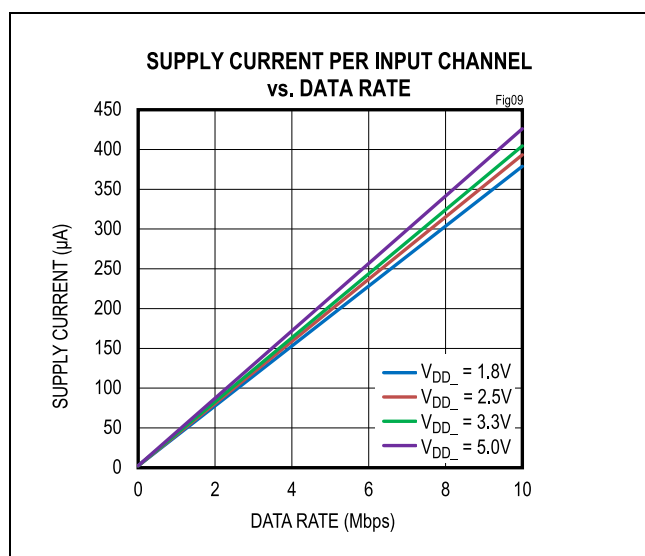
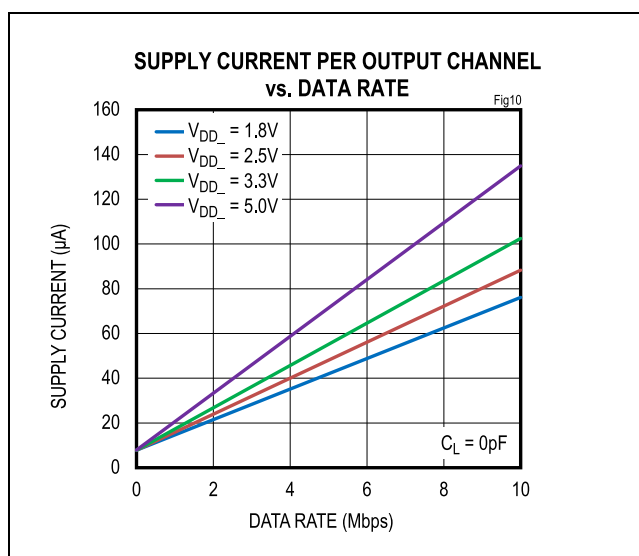

Figure 9. Supply Current per Input Channel (Estimated)
Figure 10. Supply Current per Output Channel (Estimated)
The required current for a given supply ( $V_{DDA}$  or  $V_{ddb}$ ) can be estimated by summing the current required for each channel. The supply current for a channel depends on whether the channel is an input or an output, the channel's data rate, and the capacitive or resistive load if it is an output. The typical current for an input or output at any data rate can be estimated from the graphs in Figure 9 and Figure 10. Note that the data in Figure 9 and Figure 10 are extrapolated from the supply current measurements in a typical operating condition.
The total current for a single channel is the sum of the no load current (shown in Figure 9 and Figure 10), which is a function of voltage and data rate, and the load current, which depends on the type of load. Current into a capacitive load is a function of the load capacitance, the switching frequency, and the supply voltage.
- Channel 1 is an output channel operating at 2.5V and 2Mbps, consuming 23.93μA, estimated from Figure 10.
- Channel 2 is an input channel operating at 2.5V and 10Mbps, consuming 393.35μA, estimated from Figure 9.
- Channel 1 is an input channel operating at 3.3V and 2Mbps, consuming 82.92μA, estimated from Figure 9.
- Channel 2 is an output channel operating at 3.3V and 10Mbps, consuming 102.49μA, estimated from Figure 10.